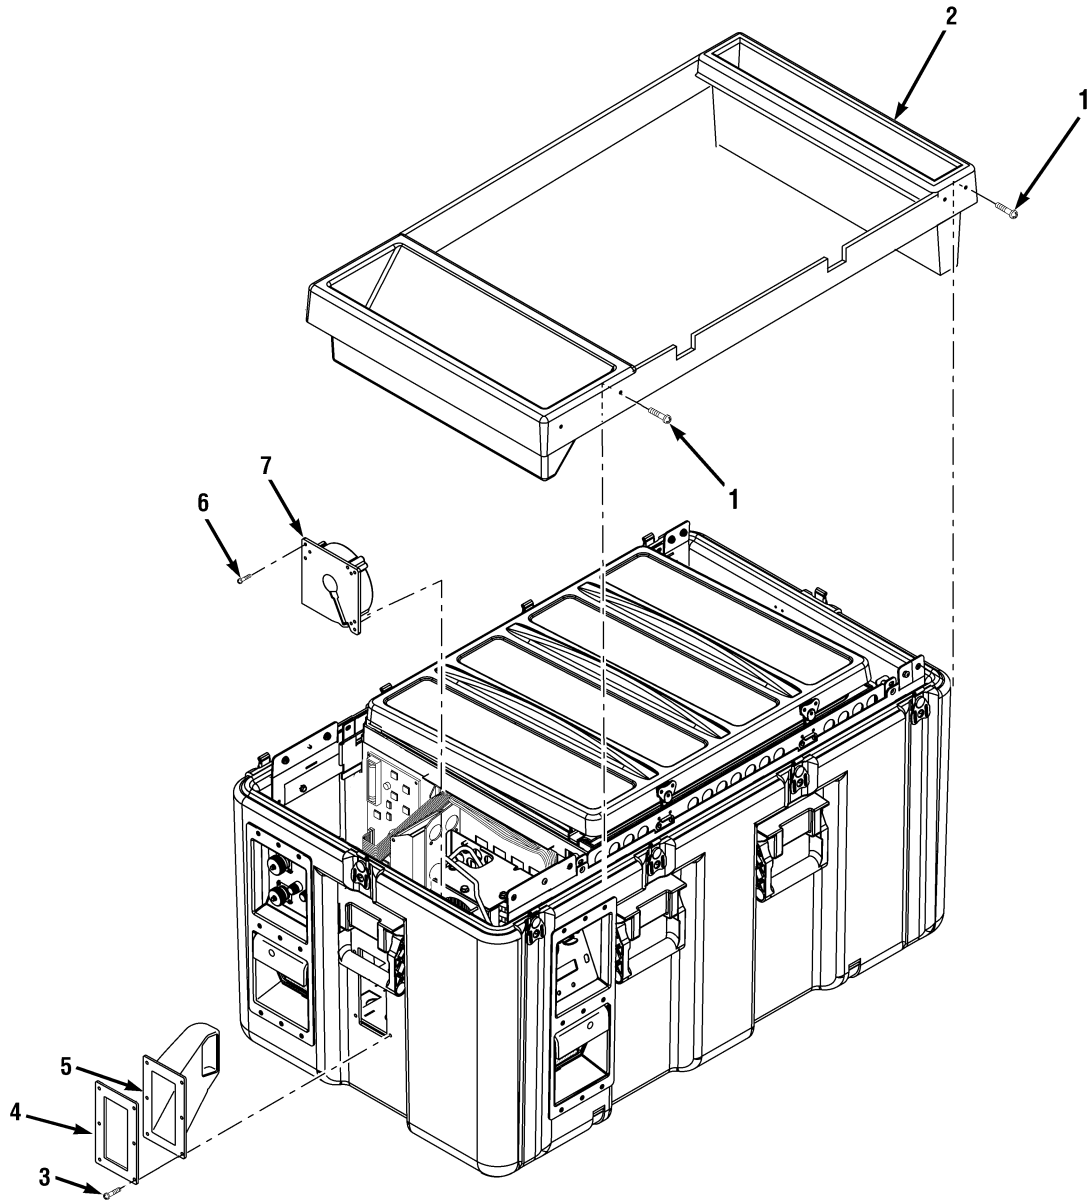
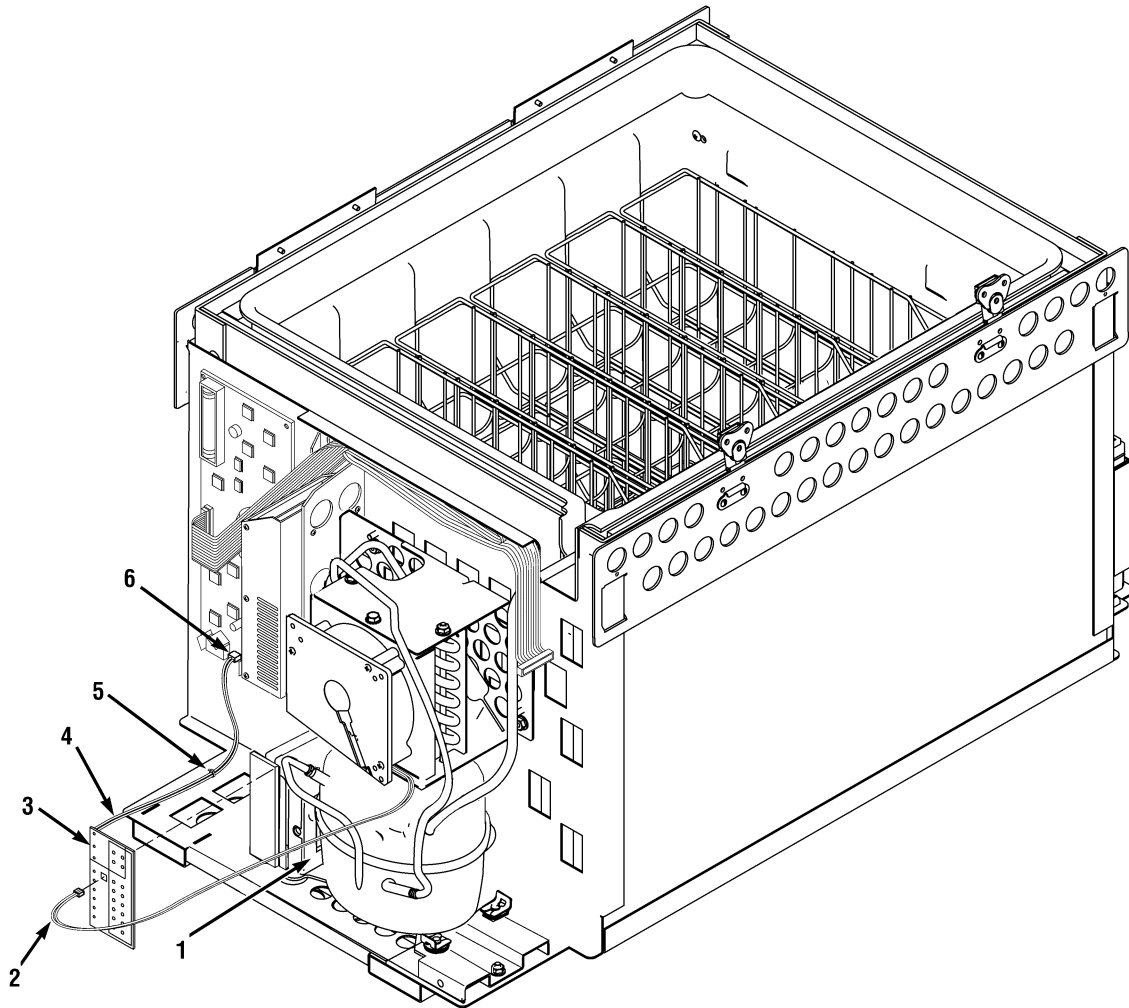

Figure 2-10. Replacement of Condenser Fan Assembly
Figure 2-11. Replacement of Compressor Connector Board
- (1) Disconnect all external power sources and prepare the unit for maintenance (Para 2-1).
- (2) Remove eight screws (1, Figure 2-10), and cover panel (2).
- (4) Remove the six screws (3, Figure 2-10), exhaust panel plate (4), and the air exhaust duct (5) from the case.
- (5) Cut the nylon wire tie that holds the condenser fan assembly wire harness (2, Figure 2-11) to the compressor process stub.
- (6) Disconnect the condenser fan assembly wire harness (2) from the compressor connector board (3).
- (7) Remove three screws (6, Figure 2-10) attaching the condenser fan assembly (7) to the fan mount bracket.
- (1) Install the condenser fan assembly (7) to the fan mount bracket using the three screws (6).
- (2) Connect the condenser fan assembly wire harness (2, Figure 2-11) to the compressor connector board (3).
- (3) Attach the condenser fan assembly wire harness (2) to the compressor process stub with a nylon wire tie.
- (4) Install the air exhaust duct (5, Figure 2-10), exhaust panel plate (4), and the six screws (3) to the case.
- (6) Install the cover panel (2, Figure 2-10) with eight screws (1).
- (2) Remove eight screws (1, Figure 2-10) and cover panel (2).
- (4) Remove the six screws (3, Figure 2-10) exhaust panel plate (4), and the air exhaust duct (5) from the case.
- (5) Cut off the nylon wire tie (5, Figure 2-11) attaching the compressor power harness (4) to the chassis.
- (7) Disconnect the compressor connector board (3) from the compressor electronic unit (1)
- (8) Disconnect the compressor power harness (4) from the control motherboard (6).
- (1) Connect the compressor power harness (4) to the control motherboard (6).
- (2) Connect the compressor connector board (3) to the compressor electronic unit (1).
- (3) Connect the condenser fan assembly wire harness (2) to the compressor connector board (3).
- (4) Install a nylon wire tie (5) and attach the compressor power harness (4) to the chassis.
- (5) Install the air exhaust duct (5, Figure 2-10), exhaust panel plate (4) and the six screws (3) to the case.
- (7) Install the cover panel (2, Figure 2-10) with eight screws (1).